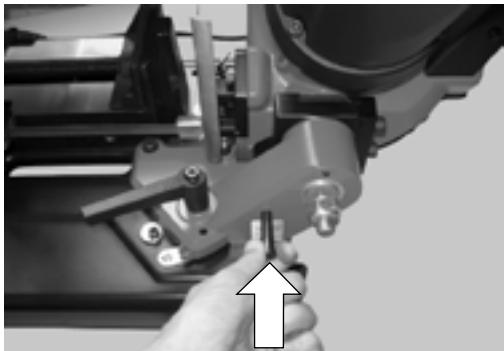
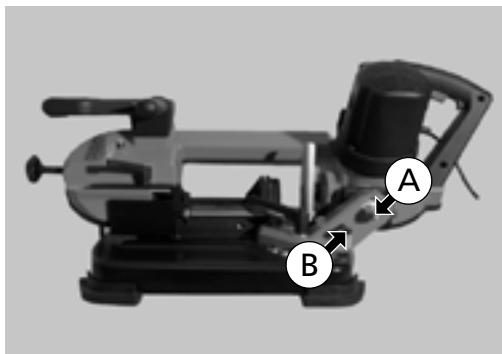

Fig. 30
Fig. 29
With the band saw set to the initial position displayed (Fig. 29), block the vertical axis (A) inserting the end stop (B) until it is flush, as indicated by the arrow (Fig. 30).
Elements of Fig. 29